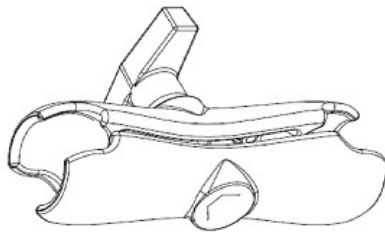

Figure 2-4: Double socket arm
- Double socket arm (see Figure 2.4)